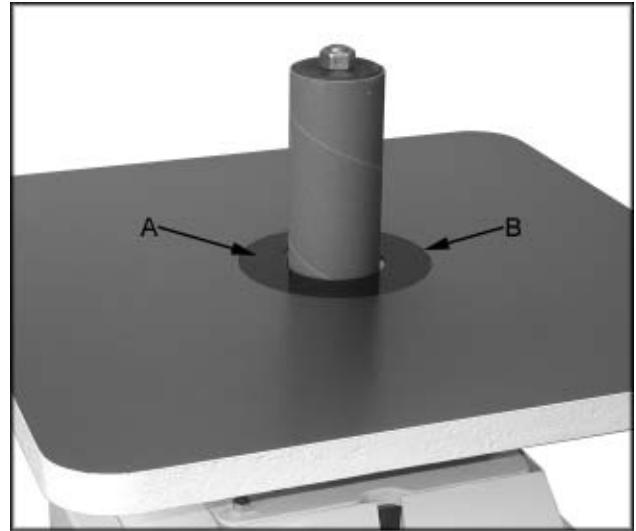

Fig. 4
2. Choose the insert (A, Fig. 4) that most closely matches the diameter of the sanding drum.
3. Line up the notch in the insert with the spring pin in the table (B, Fig. 4), and press in place.